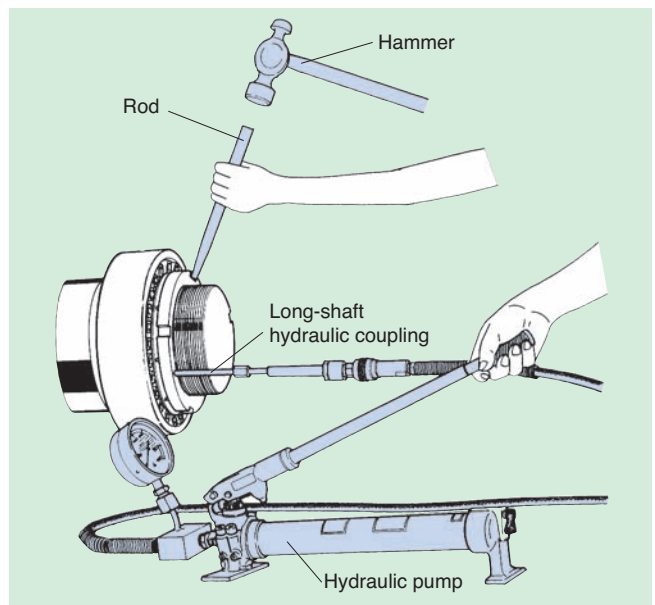

Fig. 20
- (5) Turn the withdrawal nut using the pressure from the hydraulic pump, and remove the hydraulic withdrawal sleeve (see Fig. 20).